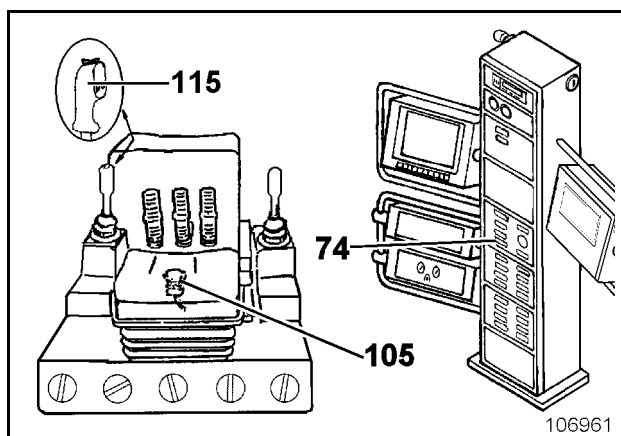

Fig. 2-99:
You can only move the working equipment after the electronic excavator control is switched on via switch (74, Fig. 2-99:) and the switch inside the driver's seat (105).